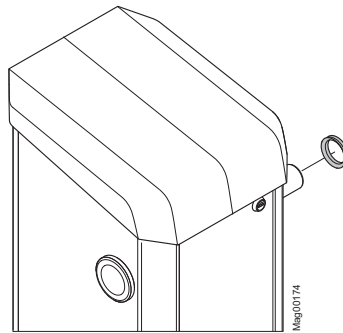

Fig. 32: Remove the v-ring
16. Slip the v-ring over the flange shaft. The sealing lip points towards the barrier housing. → See page 72, Fig. 32.